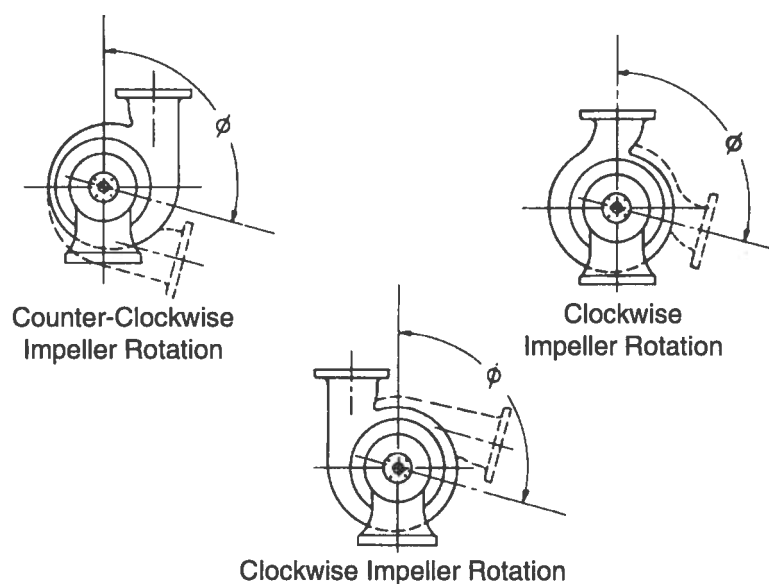

Figure 1.1.6.6 — Position of casing and shaft rotation
The normal position of the discharge nozzle of an end suction horizontal pump shall be top vertical. Optional positions of the discharge nozzle shall be designated by degrees of rotation, measured from the vertical centerline in the clockwise (CW) [c] direction, facing the drive end of the pump (see Figure 1.1.6.6).